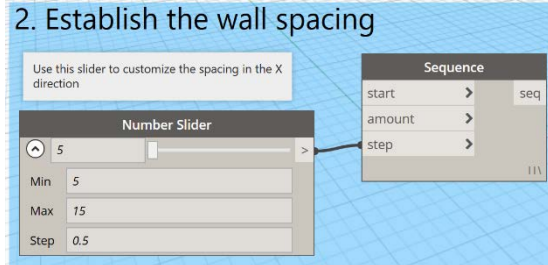

Figure 42
24. Rename the group: **2. Establish the wall spacing** (see Figure 42).